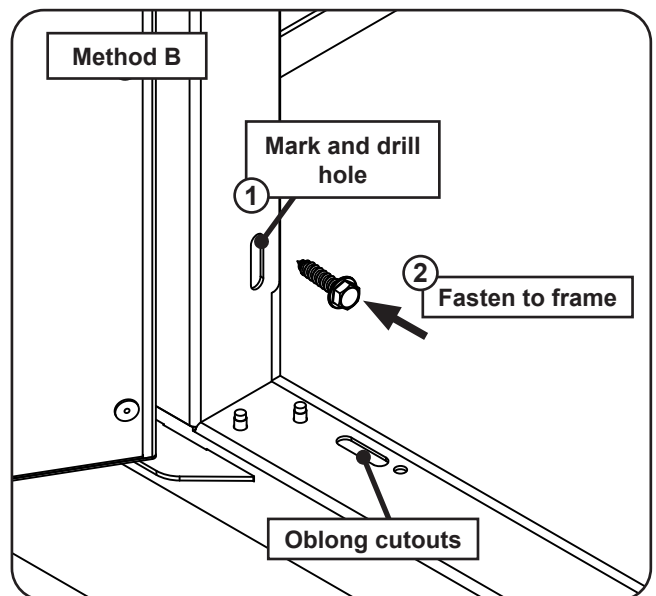

Fig. 3-3 Method B install detail
2. Drill pilot holes for each screw. See Fig. 3-3, step 1. It is recommended to use a #21 drill bit (0.159") to drill pilot holes.
4. Insert a long hex screw and tighten with the power drill and 5/16" hex driver (see Fig. 3-3, step 2). DO NOT OVERTIGHTEN.